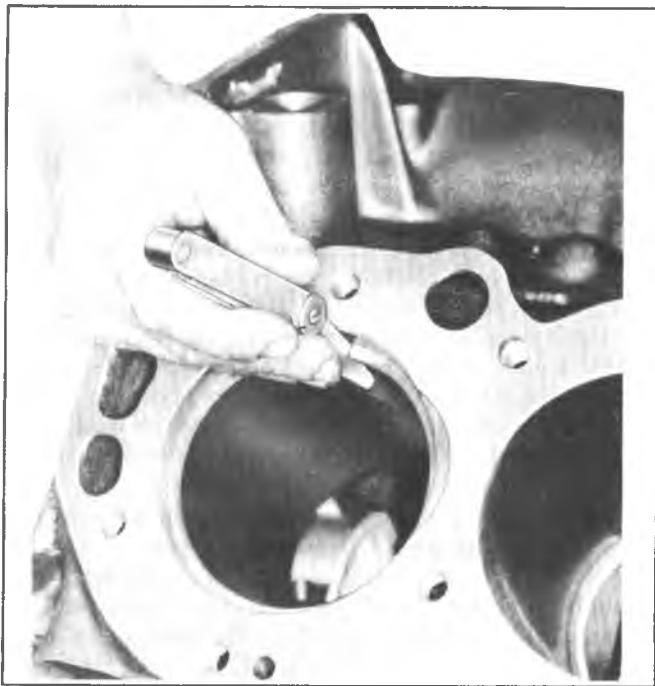

Fig. 6A5-54--Measuring Ring Gap
- Slip the outer surface of the top and second compression ring into the respective piston ring groove and roll the ring entirely around the groove (fig. 6A5-55) to make sure that the ring is free. If binding occurs at any point, the cause should be determined. If binding is caused
8. Install piston rings as follows (fig. 6A5-56):